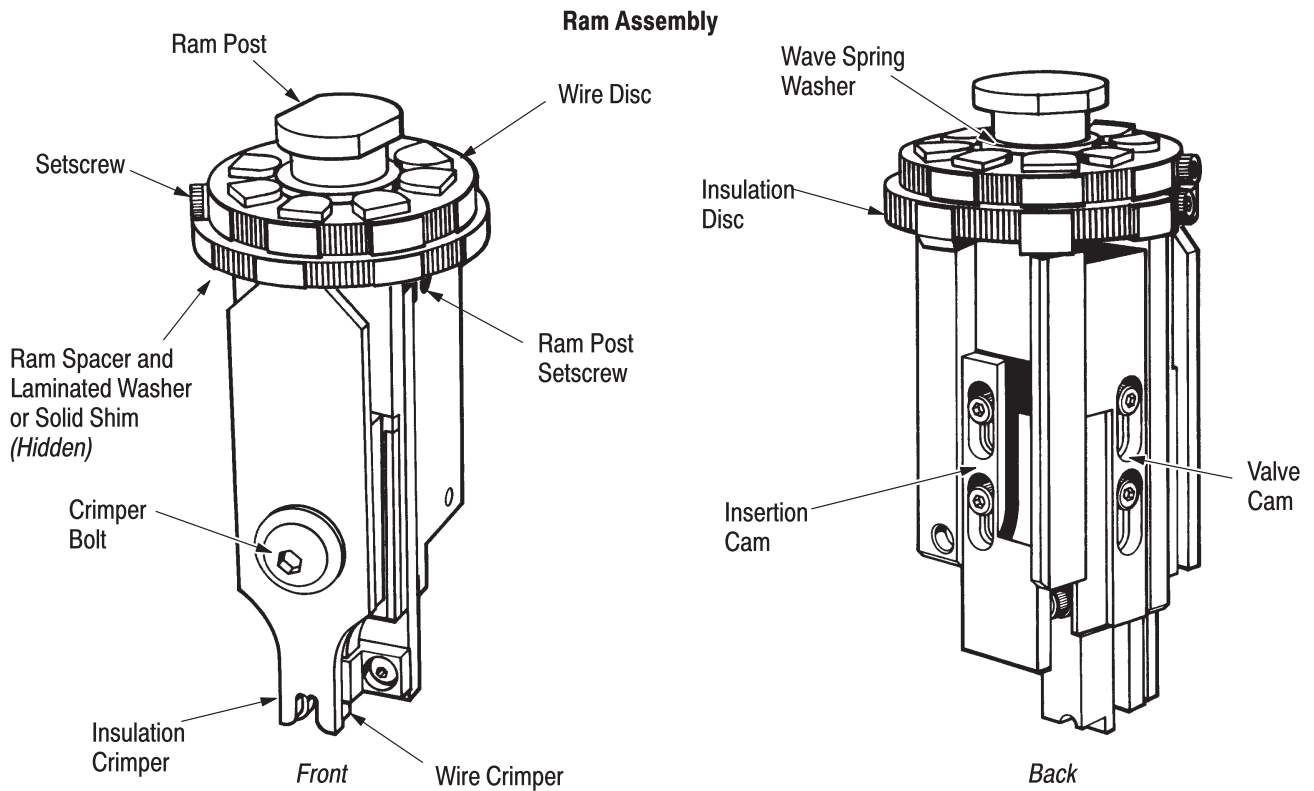

Figure 3
The applicator ram contains the insulation crimper, wire crimper, spacers, and cams. The cams (one on each side of the ram) actuate the valves and the insertion latch assembly. See Figure 3.
4.1. Crimp Height Adjustment (Figure 3)
5.1. Wire Crimper Replacement (Figure 3)
2. Remove the five screws under the base plate and remove the strip guide plate. See Figure 3.